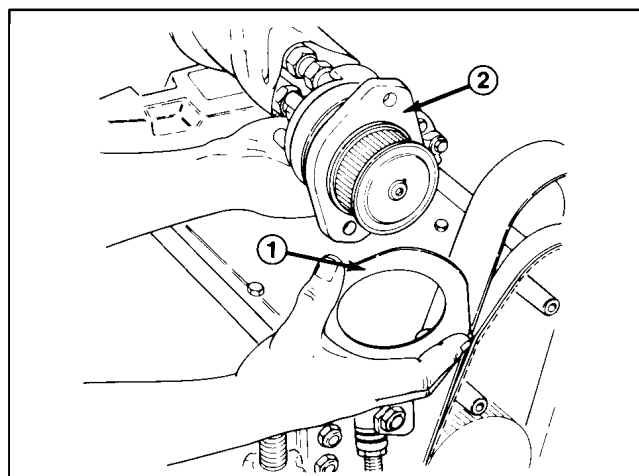

Figure 13
1. Install drive plate shield onto the reel drive motor flange. Be sure the widest portion of the shield is at the top (Fig. 13).
2. Insert reel drive motor pulley through the housing, and slip cutting unit drive belt over the pulley (Fig. 13).